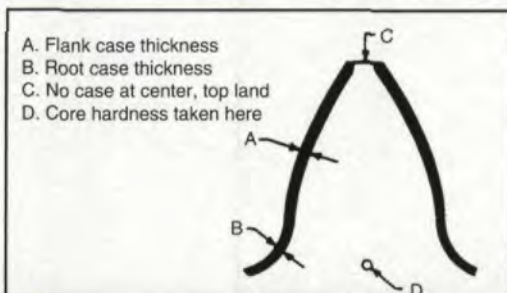

Fig. 7 - Induction hardened case pattern by the scanning method of tooth heating.
**Induction Hardening.** Induction hardening is a heat treating process which uses alternating current to heat the surfaces of a gear tooth. The area is then quenched resulting in an increase in hardness of the heated area. The hardness pattern which is achieved varies, depending on the type and shape of the inductor. An inductor which is circumferential will harden the teeth from the tips downward. While this pattern may be acceptable for splines and some gearing, heavily loaded gears need a hardness pattern which is more like a carburized case. This type of induction hardening is known as contour hardening. A typical case for a contour induction hardened tooth is shown in Fig. 7. Also shown in this figure are the three critical places to check the case on an induction hardened part. The discussion in this section deals with gears which are hardened by this method.